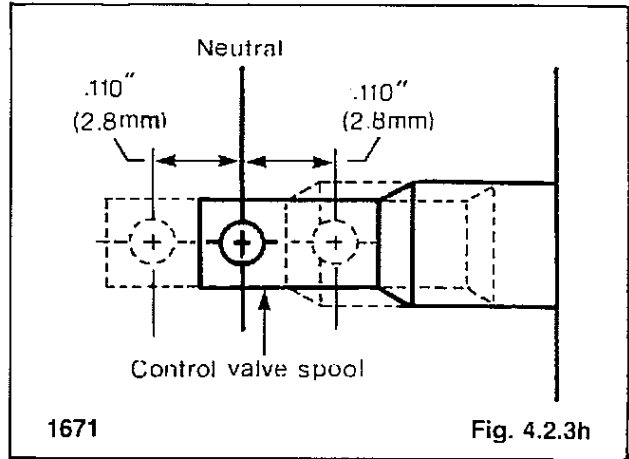

Fig. 4.2.3h
10. The control valve spool must move approximately .110 in. (2.8 mm) either side of neutral position before hydraulic flow occurs (Fig. 4.2.3h).